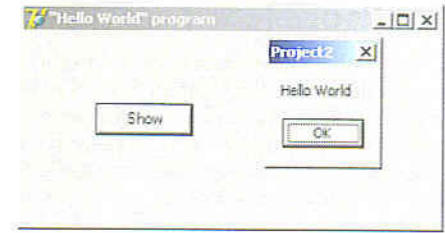

Figure 3. The program is run. A Windows message with "Hello World" appears.
9. The program is then compiled and executed when you press function key F9 (Figure 3). The directory where we saved the project file *Project1.dpr* (or any other name we gave it) also contains an executable file, *Project1.exe*, created by Delphi. This *.exe can be used outside the Delphi IDE for stand-alone use of the program.